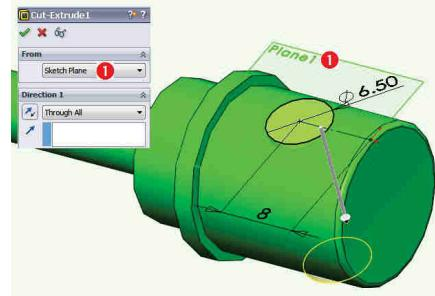

Fig. 2.59
**First Reference:** select Front plane / activate parallel constraint / **Second Reference:** select the face ② / activate tangent constraint / .
**4 Trasare cerc decupare  $\phi 6.5$  mm: Comanda Sketch – Fig. 2.59 – plan ①.**
**5 Extrudare contur decupare  $\phi 6.5$  mm: comanda Extruded Cut – Fig. 2.59 - Through All / ✓.**
**4 Sketching of the  $\phi 6.5$  cut circle: The Sketch command – Fig. 2.59 – plane ①.**
**5 Extrudation the  $\phi 6.5$  mm cut circle: the Extruded Cut command - Fig. 2.59 – Through All / ✓ .**